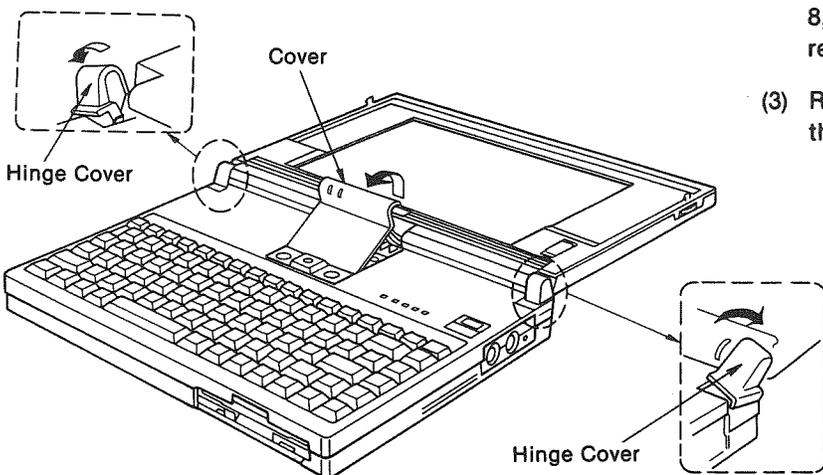

Figure 8
- (2) Open the display panel fully as shown in Figure 8, slowly raise the cover obliquely upward and remove it.
- (3) Remove two hinge covers by pressing them in the direction of arrows as shown in Figure 8.